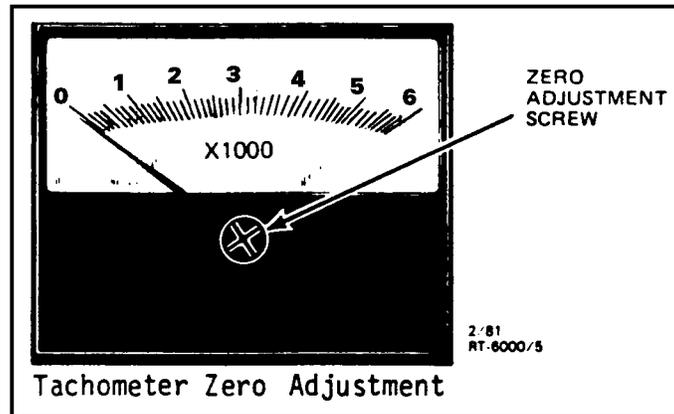

Figure 3-37
- b. Adjust the screw until the pointer reads zero. (See Figure 3-37).